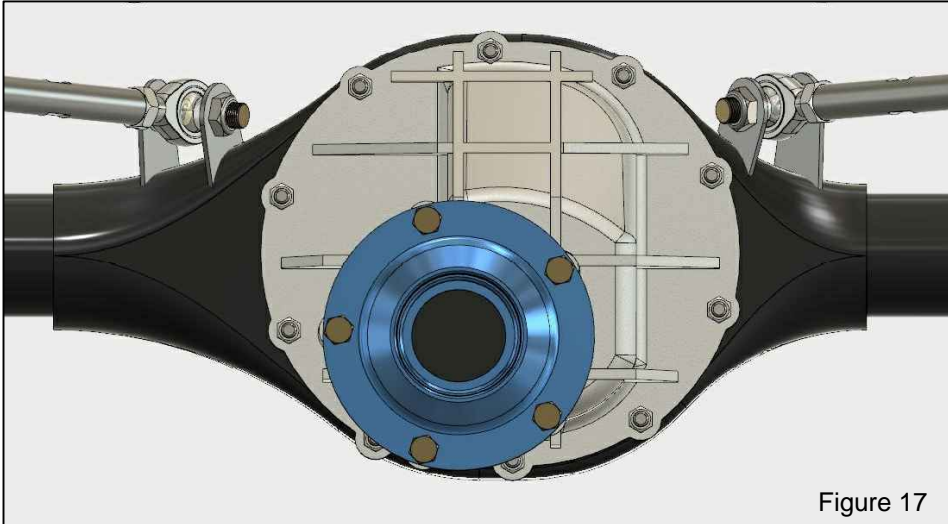

Figure 17
20. Test fit the Weld-on Tabs by laying the Adjuster Rods with Tabs attached onto the rear end housing and determining how much metal needs to be removed from each tab. Due to the differences in factory vendors thru the years and aftermarket manufacturers, the tabs will need to be cut and/or ground to your specific housing. Once fitted to your housing, weld tabs in place "Figure 17".